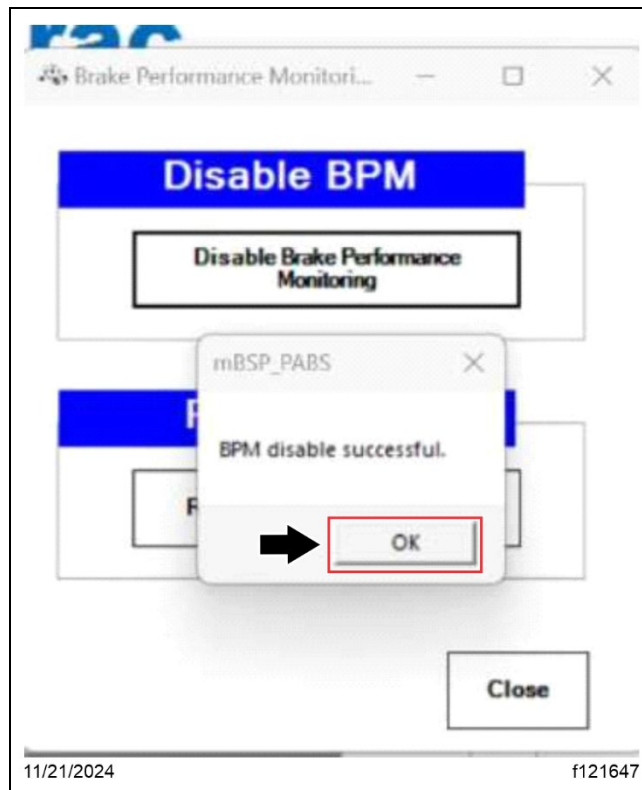

Fig. 67, BPM Disable Successful
22.5. Another pop-up appears stating BPM has been successfully disabled. Select 'OK.' See Fig. 67.